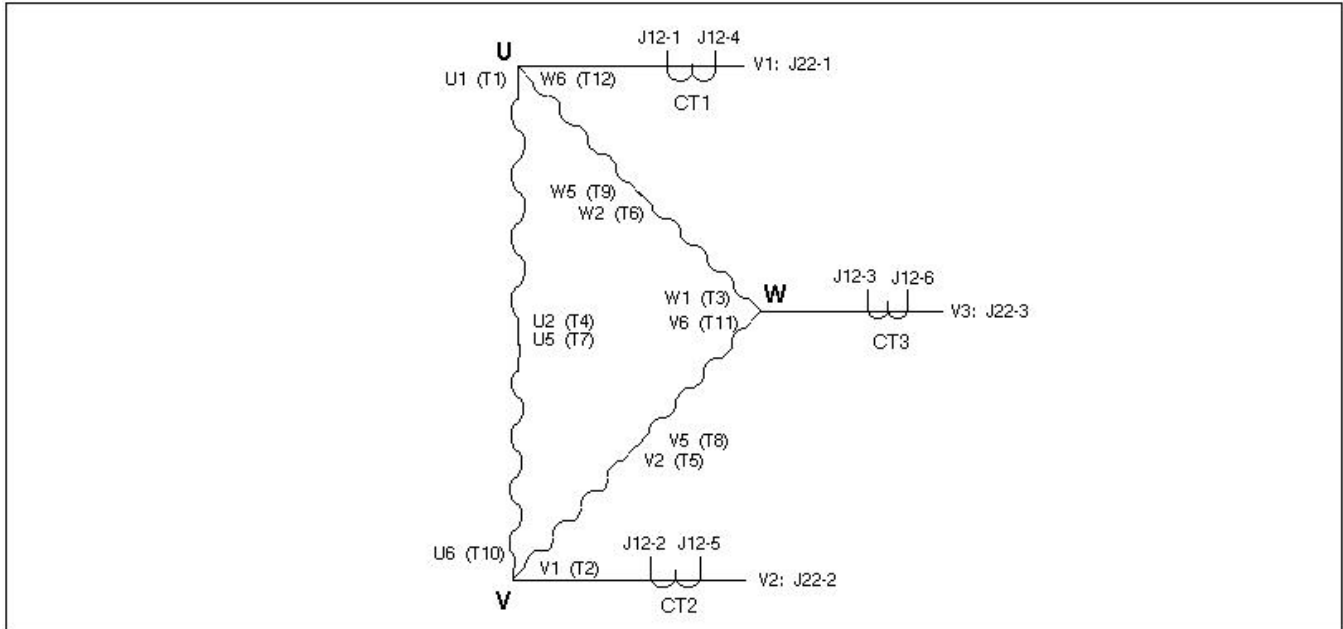

FIGURE 75. ALTERNATOR CONNECTIONS: SERIES DELTA
- Figure 75. Alternator Connections: Series Delta 452